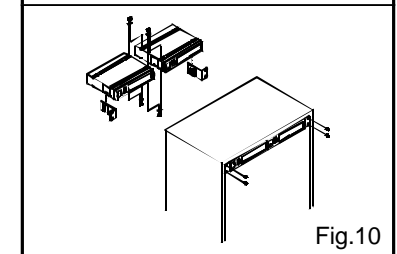

Fig.10
- 5. With two rackmount brackets installed, receiver can be mounted into an EIA standard rackmount case, as shown in Fig.10. As an accessory, you may purchase from nearest dealer a front antenna kit, which not only allows easy front antenna installation, but also improves efficiency of signal reception.